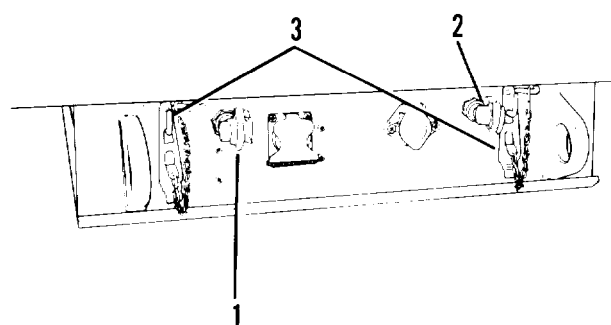

Figure 2-5. Brake air hose couplings
- a. Two air hose couplings tagged SERVICE (1, figure 2-5) and EMERGENCY (2).
- a. Two dummy couplings (3, figure 2-5) to be fitted to the SERVICE and EMERGENCY air hose couplings.